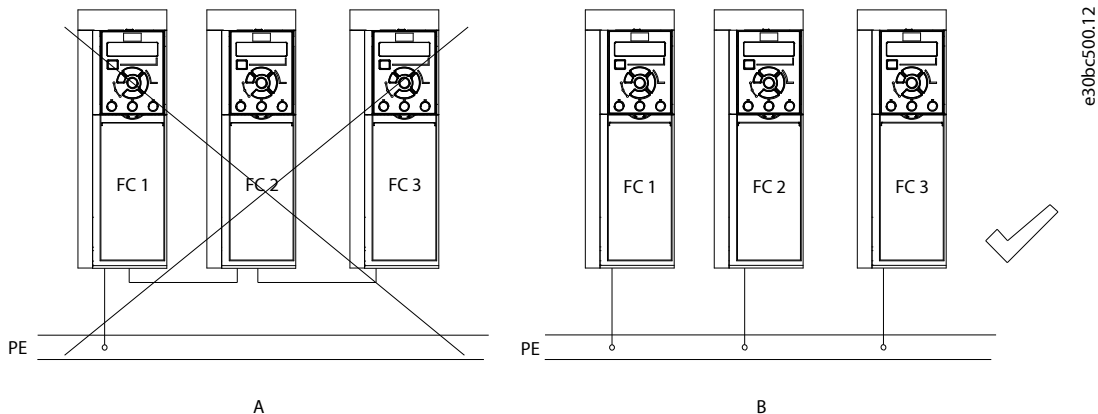

Figure 8: Grounding Principle
- Do not ground 1 drive to another in a daisy chain fashion (see Figure 8).